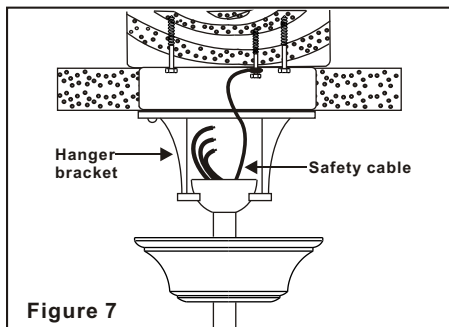

Figure 7
Step 8. Hanging the assembled fan onto the mounting bracket, place the downrod ball into the mounting bracket. Rotate fan until the slot of the downrod ball locks into the hook of the mounting bracket. (Fig. 7)
Step 9. Secure the safety cable to the building structure. (Fig. 7)